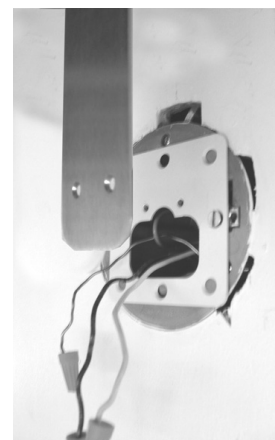

Figure 6
Step 4 Attach the provided mounting template to the mounting bracket with 8-32 FHM screws. The mounting template is provided so the installer can align the secondary fixture assembly at a proper distance and angle from the primary powered fixture assembly. (See Figure 6)